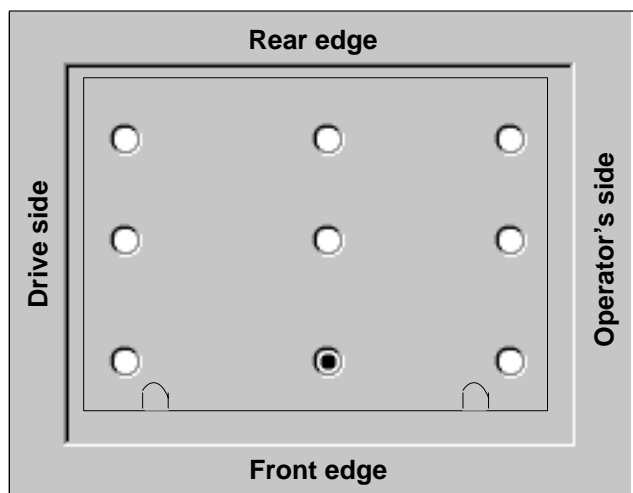

Fig. 15 Printing plate: Positioning the print image
3. If you do not wish to use the standard positioning of the printed image, deactivate the check next to *PPF transformations*. Then select the reference point to be used for positioning the print job on the plate (Fig. 15).
In Fig. 15 the printed image is aligned centrally to the front edge of the plate.